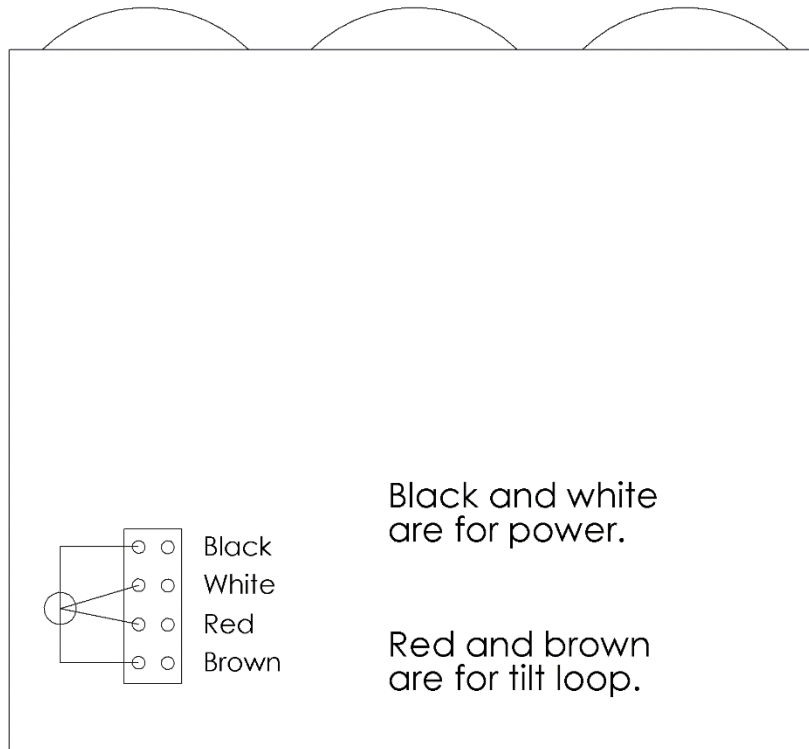

Figure 11: Light Unit Wiring
- Attach each fork terminal to the terminal block as per Figure 11